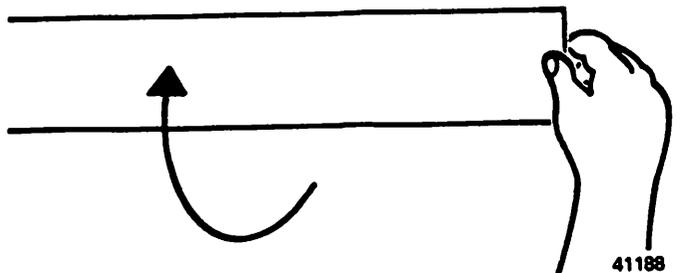

Fig. 3P-7 Lifting Decal
(5) Remove approximately 6 inches of paper backing from one end (fig. 3P-8).